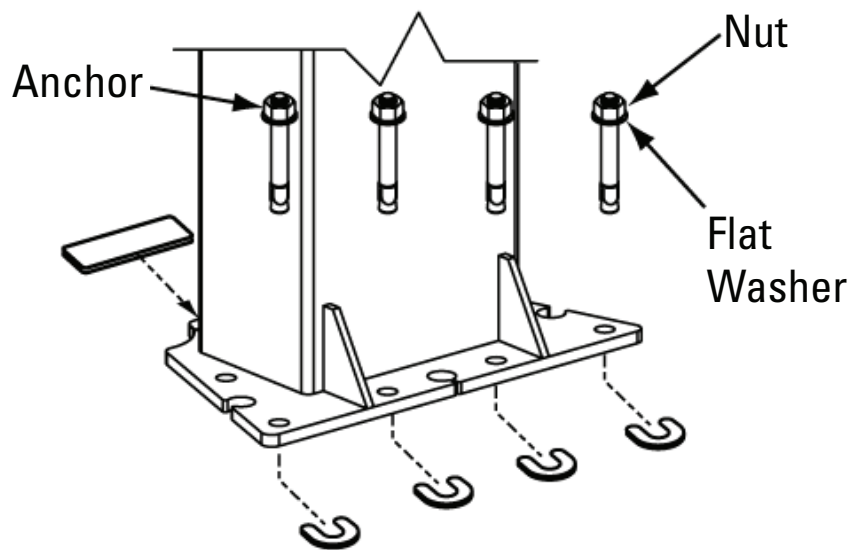

Figure 8
- F. Using a level, plumb the mainside leg both side to side and front to back. Shim the leg as necessary next to and on both sides of the anchor bolts, Figure 8. If more than 1/2" of shimming is required, do not use the anchors and shims provided with the lift. Use longer anchors and fabricate larger shims from steel flat, 1/4" or 1/2" thick by 2", or more, wide.